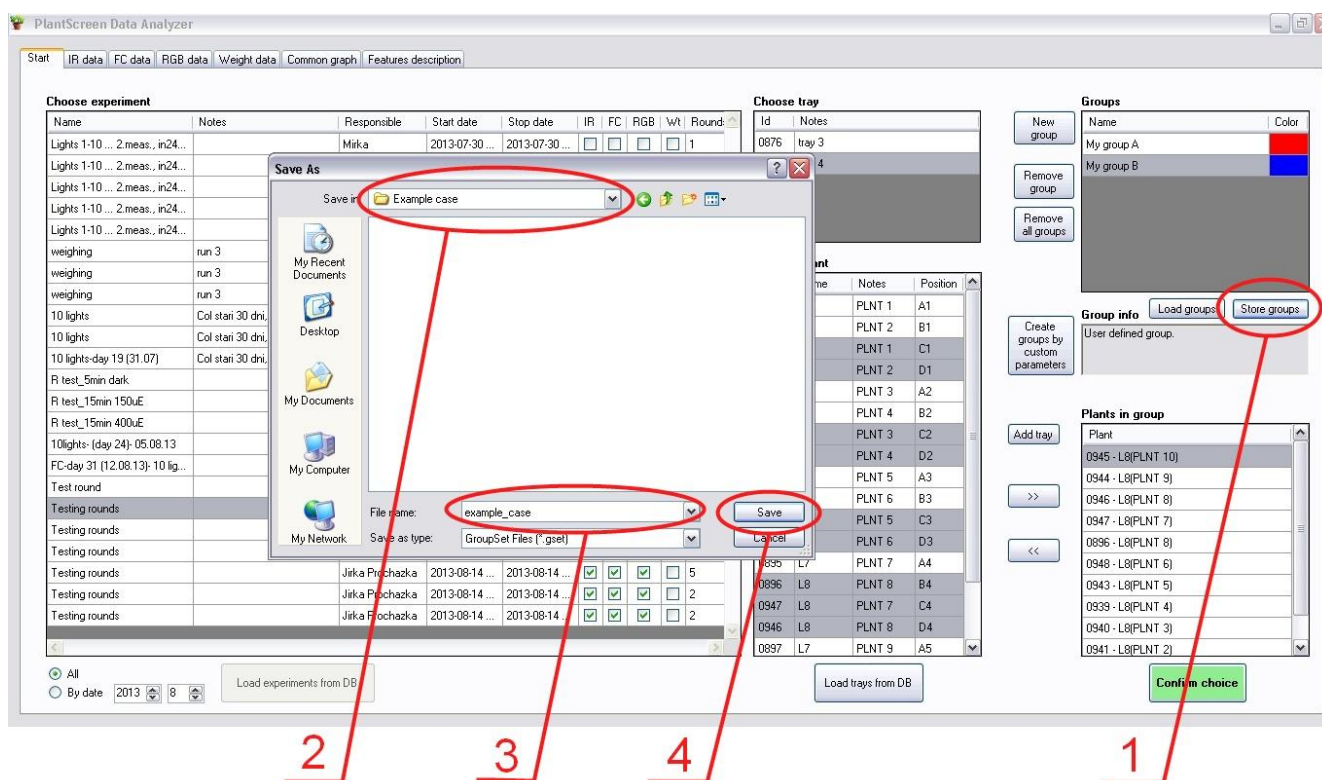

Fig. 21
- Go to the tab “Start” (Fig. 21)
- o Click the button “Store groups” (Fig. 21, 1)
- o Open the target folder (Fig. 21, 2)
- o Write name of the new file (Fig. 21, 3)
- o Click the button “Save” (Fig. 21, 4)